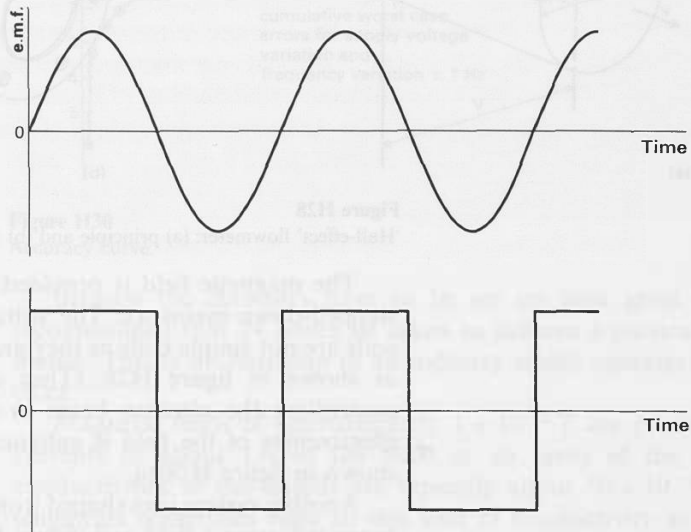

Figure H26
The signal output is converted into square pulses which are then counted (figure H26).
- Suggest one way of producing the square pulses shown in figure H26 from the smoothly varying induced e.m.f. Why is it necessary to produce square pulses?